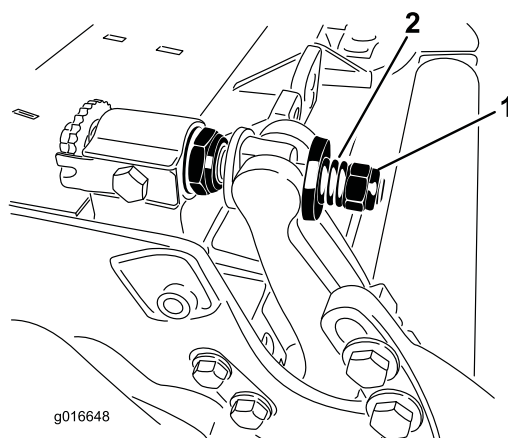

Figure 29
3. Tighten spring tension nut until spring is collapsed, then back off 1/2 turn (Figure 29).
10. Tighten the nut on each bedbar adjuster assembly until the compression spring is fully compressed, then loosen nut 1/2 turn (Figure 29).